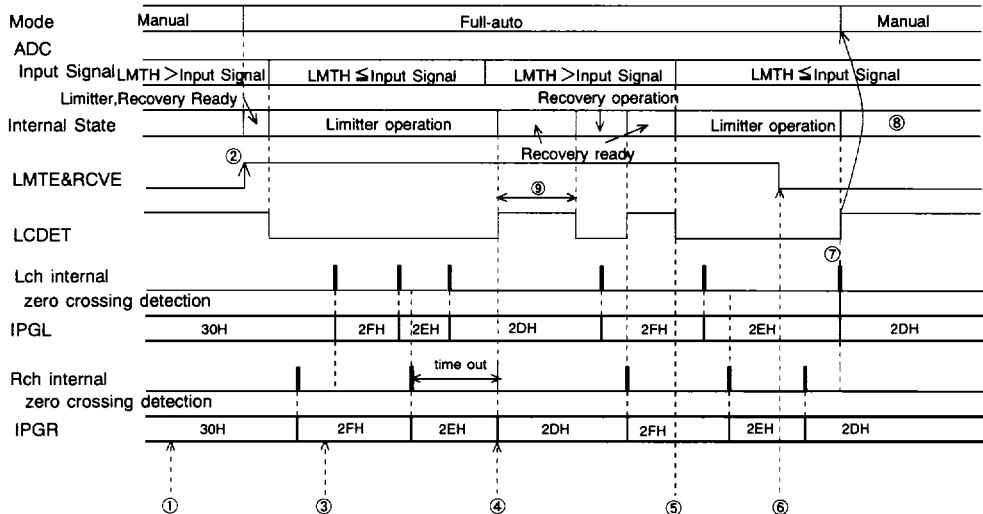

Figure 9. Control example of full-auto mode operation (LMAT=RATT: 1 step, ZENM=ZELM="1")
- ① Set-up the registers of full-auto mode (LTM1-0, ZELM, LMTH1-0, LMAT2-0, WTM1-0, RATT1-0, NRTM1-0, ZENM, REF6-0, GSEL, IPGL, IPGR, LRGA="1")
- ② WR(LMTE=RCVE="1"): After the registers concerned in the auto limiter operation is set up and confirming the zero crossing flags(ZFIPL, ZFIPR)="1", LMTH and RCVE are set "1".
- ③ WR(IPGA="31H"):As the operation is full-auto mode, writing by uP is ignored.
- ④ The ready of recovery starts.
- ⑤ As the input signal of ADC exceeds LMTH, the recovery operation (in the figure, recovery ready) is discontinued and the limiter operation starts.
- ⑥ WR(LMTE=RCVE="0"):The full-auto mode operation is completed.
- ⑦ In Figure 9, since "0" is written to LMTE& RCVE during the ATT operation, the operation changes to the manual mode after completing ATT operation. After confirming LCDET="1", it is possible to change the each register set-up. If LMTE&RCVE are set "0" during the full-auto mode operation, LCDET becomes "1" after the max "1" ATT/GAIN operation is completed by internal state.
- ⑧ In this case, the input signal of ADC exceeds LMTH, the auto limiter does not operate because of LMTE=RCVE="0".
- ⑨ After the limiter operation is completed, the AK4516 waits for the time set by WTM1-0. If the input signal does not exceed (LMTH - 2dB), the recovery operation is executed. After the waiting time finishes the next waiting time starts immediately. In recovery ready, the waiting timer is reset under the condition of (LMTH - 2dB) ≤ Input Signal < LMTH. And the timer starts under the condition of (LMTH - 2dB)>Input Signal.